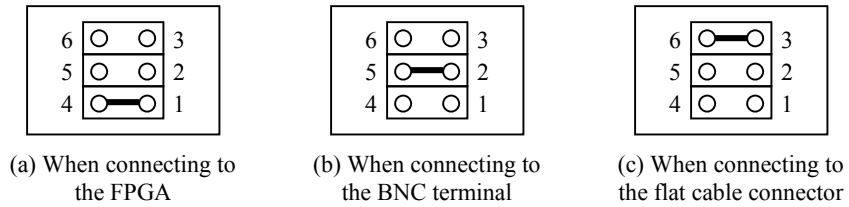

Figure 1. Jumper setting
- When setting the jumpers as the Figure 1. (a), the ML7022 signal are output at the BNC terminals via the FPGA on the board. In this case, it use PCM CODEC TESTER (ex. MS369B of Anritsu Corporation) to evaluate.
- When setting the jumpers as the Figure 1. (b), the ML7022 signals are directly output at the BNC terminals on the board.
- When setting the jumpers as the Figure 1. (c), the ML7022 signals are connected to the external board with the flat cable connector.